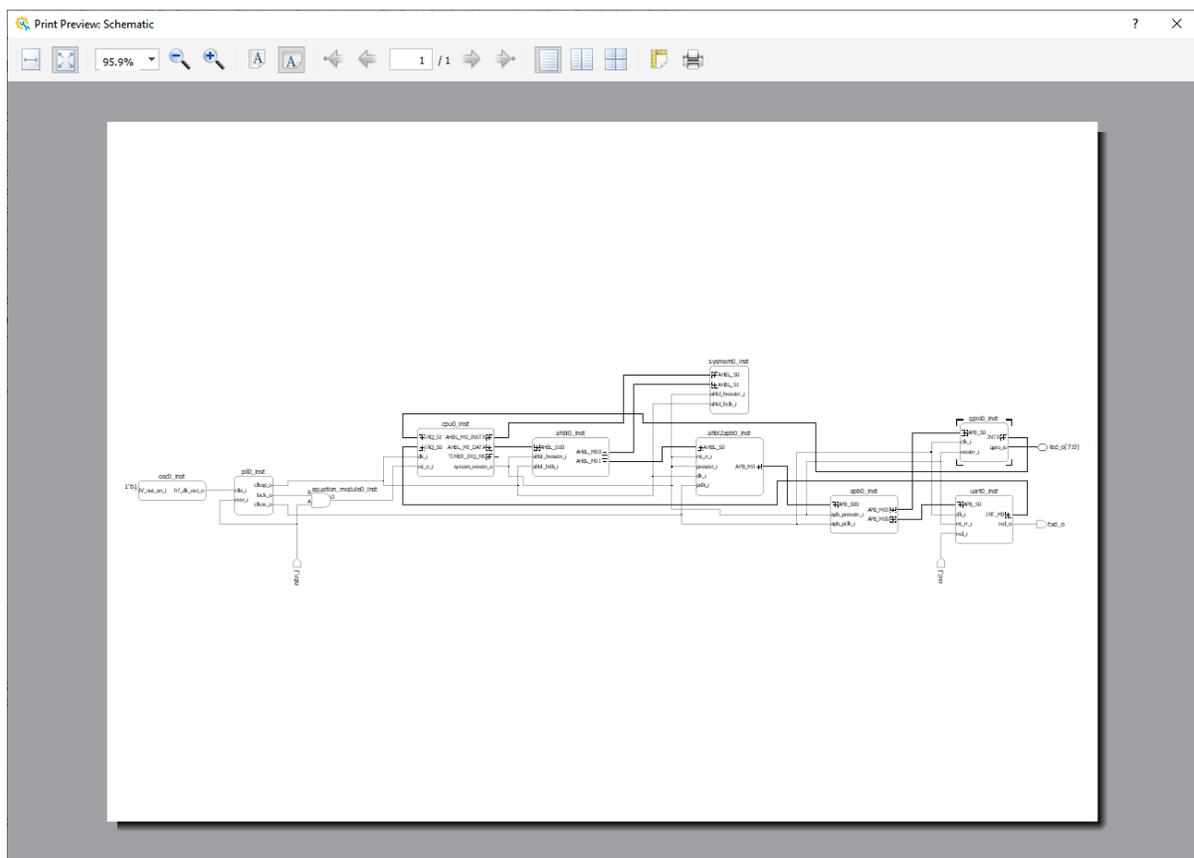

Figure 2.70. Print Preview
1. Choose **File > Print Preview**. The Print Preview window (Figure 2.70) opens.